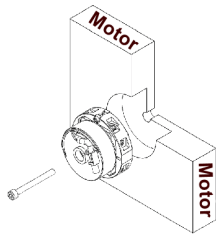

Figure 3-4
- hexagon screw through the center hole of the conical shaft, and tighten the screw into the hole of the traction machine. The required tightening torque is 5 N·m to 5.5 N·m. Ensure that the conical shaft and hole are concentric, as shown in Figure 3-4.